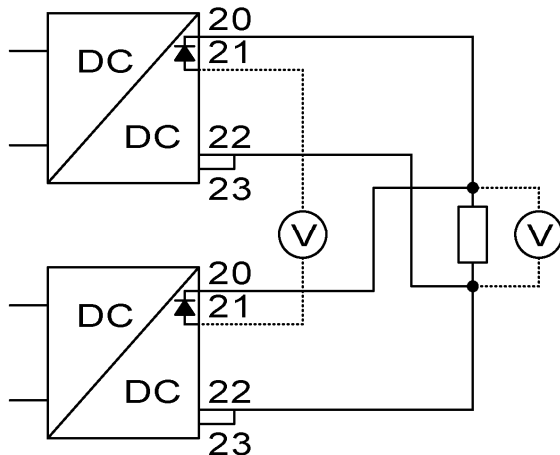

Figure 4. Adjusting output voltage
- Measure the voltage at the load and on the converters. Connect voltmeters as shown in *Figure 4*. If you have only access to one voltmeter you must move it around to make the adjustments. This will take time but is of course possible.
Increase the output voltage by turning the potentiometer marked "V.ADJ" clockwise on the unit with the lowest output voltage until you reach the desired voltage at the load or until the output voltage does not increase anymore (as the unit is in current limit). To find the unit with the lowest output voltage you can measure the voltage difference before the series diode, as in *Figure 4*. Repeat until you reach the desired output voltage at the load.
Decrease the output voltage by turning the potentiometer marked "V.ADJ" counter clockwise on the unit with the highest output voltage until you reach the desired voltage at the load or until the output voltage does not decrease anymore (as the other units supply all current). To find the unit with the highest output voltage, measure the voltage difference before the series diode, as in *Figure 4*. Repeat until you reach the desired output voltage at the load.